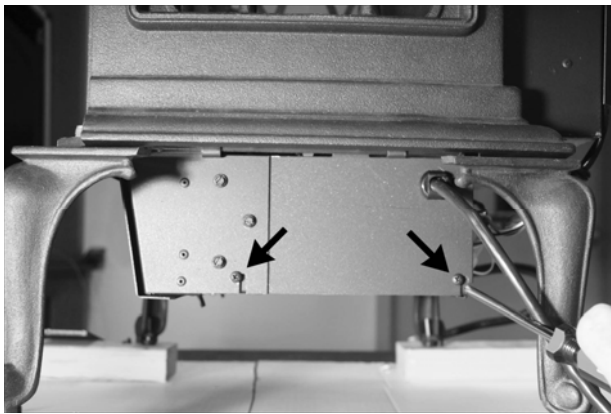

Figure 1
1. Remove the bottom plate by loosening two screws on each side of bottom shroud. It is not necessary to completely remove the screws. See Figure 1.